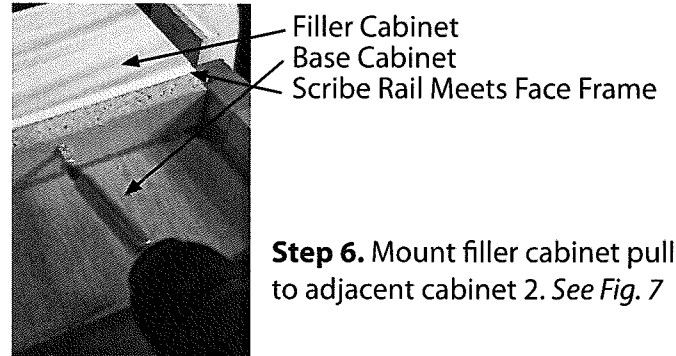

Fig 7
Step 6. Mount filler cabinet pull-out to adjacent cabinet 2. See Fig. 7